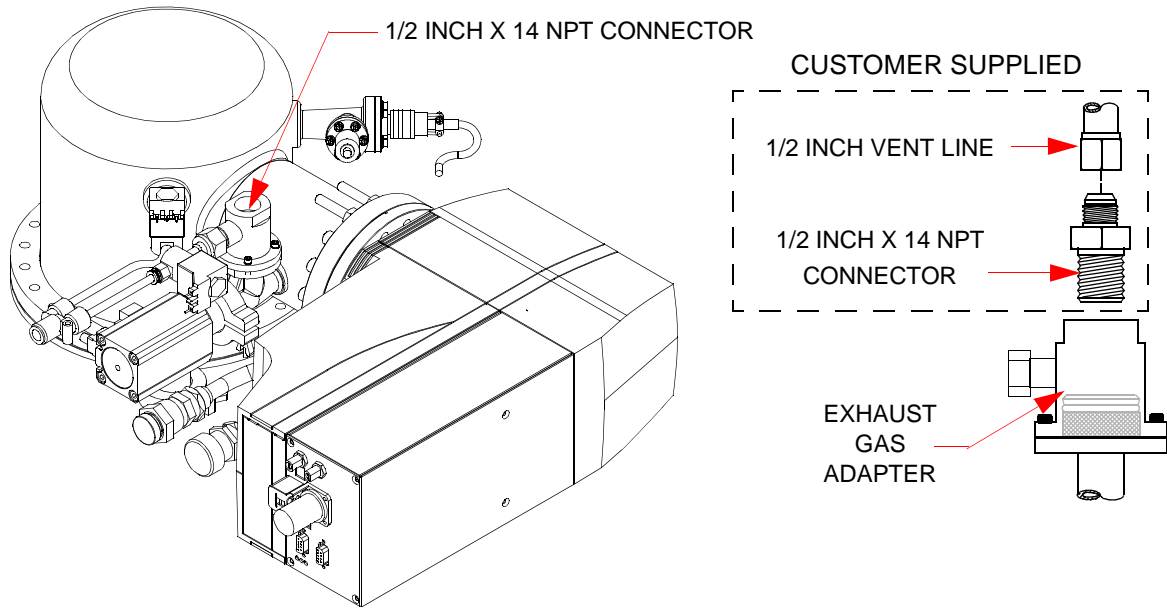

Figure 2-5: Pressure Relief Valve Exhaust Connection
An exhaust gas adapter is available from Helix. See Figure 2-5.
1. Install a customer supplied 1/2 inch x 14 NPTF Tube Adapter in the exhaust gas adapter as shown in Figure 2-5.
2. Connect a customer supplied 1/2 inch exhaust system vent line to the Tube Adapter fitting as shown in Figure 2-5.